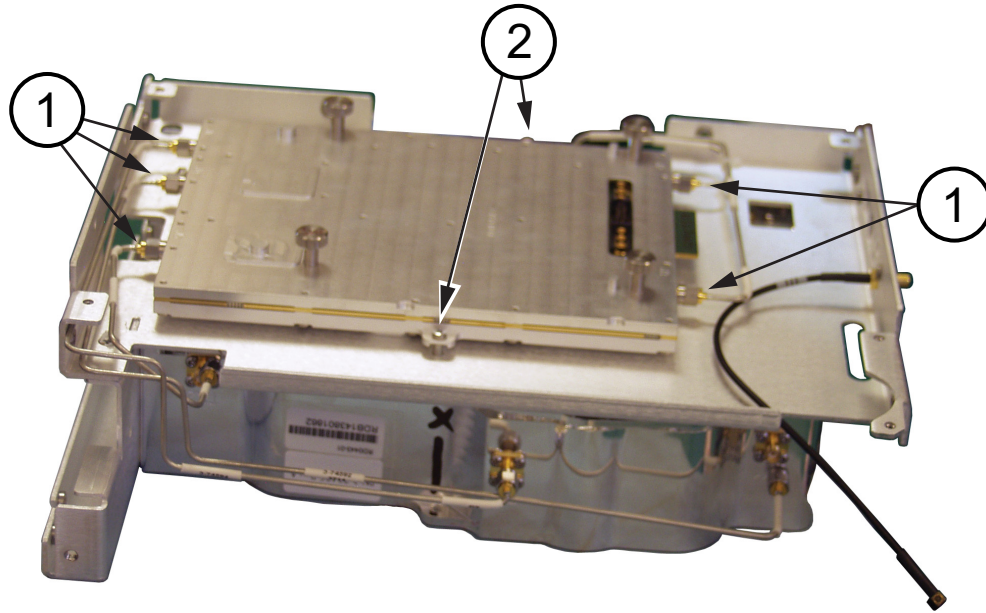

Figure 5-40. RF Board in Chassis Tray
6. Use 2 screws, size M3, 6 mm, pan head, to secure the RF Board to chassis tray. See item 2 in Figure 5-40 on page 5-37.
8. Connect the semi-rigid cables to J2 and J3 of the RF Board, then connect them to the forward and reverse terminals of the filter. See item 1 in Figure 5-40. Torque the connections to 0.9 N · m (8 lbf · in).
9. Connect the semi-rigid cables to J1, J4, and J5 of the RF Board, then connect them loosely to the filter. See item 1 in Figure 5-40.